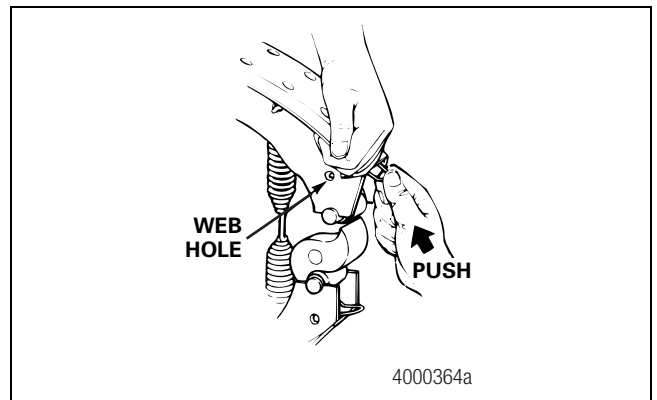

Figure 5.22
5. Push the brake shoe roller retainer into the brake shoe until the ears lock into the shoe web holes. Figure 5.22.